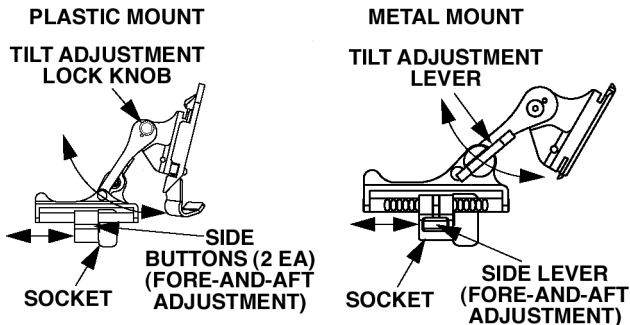

Figure 2-22. Tilt and Flip-up Assembly Mechanisms.
- (1) Ensure that the batteries are installed per paragraph 2-6.
- (2) Don the helmet mount per instructions in paragraph 2-13.
- (3) Place the monocular in the socket of the helmet mount. Set your eye relief by depressing the side buttons (or press down on side lever on metal mount) (see Figure 2-22) and carefully move the monocular fore or aft until the eyecup comfortably seals around the eye. Readjust the helmet straps as required for vertical adjustment.
(4) Turn power switch to ON. Adjust the tilt by using the tilt adjustment lock knob (or tilt adjustment lever on metal mount) (Figure 2-22) until you obtain a comfortable viewing angle.
(6) Adjust the eye relief distance by depressing the side buttons (Figure 2-22) (or press down on side lever on metal mount) and sliding monocular fore or aft to obtain a full field-of-view of the image. Reset the diopter adjustment for best image.